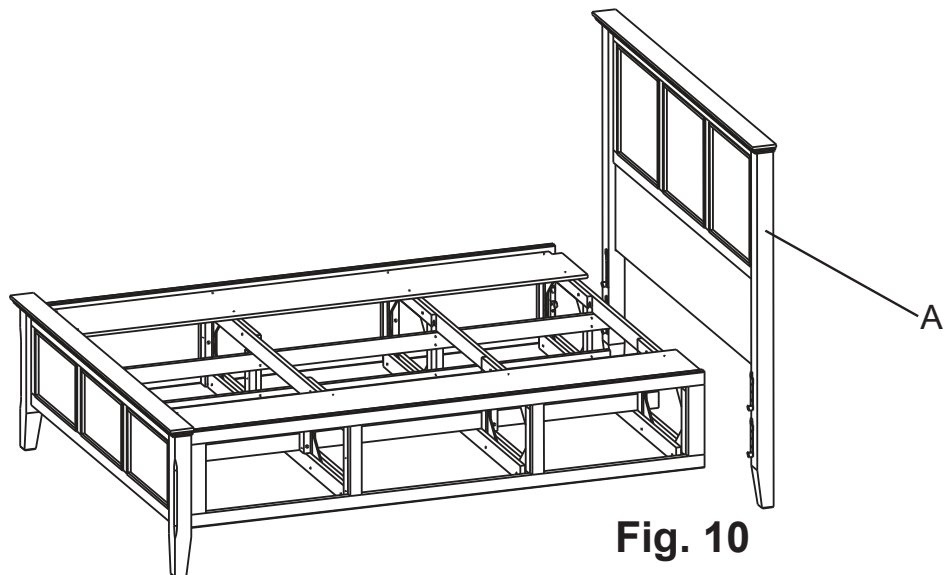

**Fig. 9**
9. Attach the Footboard (B) to the Pedestal Assembly as in Figure 9. Align brackets as shown in Figure 9a, and slide the Pedestal Assembly down on to the Footboard (B).